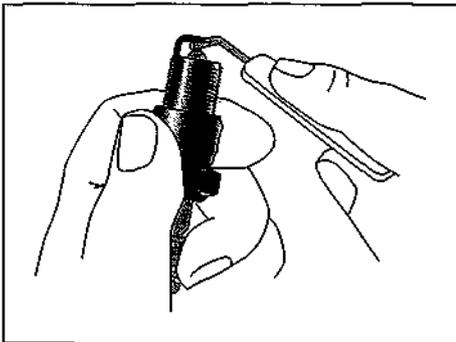

Figure 12-12:
- 2. Take your feeler gauge, select the proper wire, and run it between the electrodes (see Figure 12-12).**